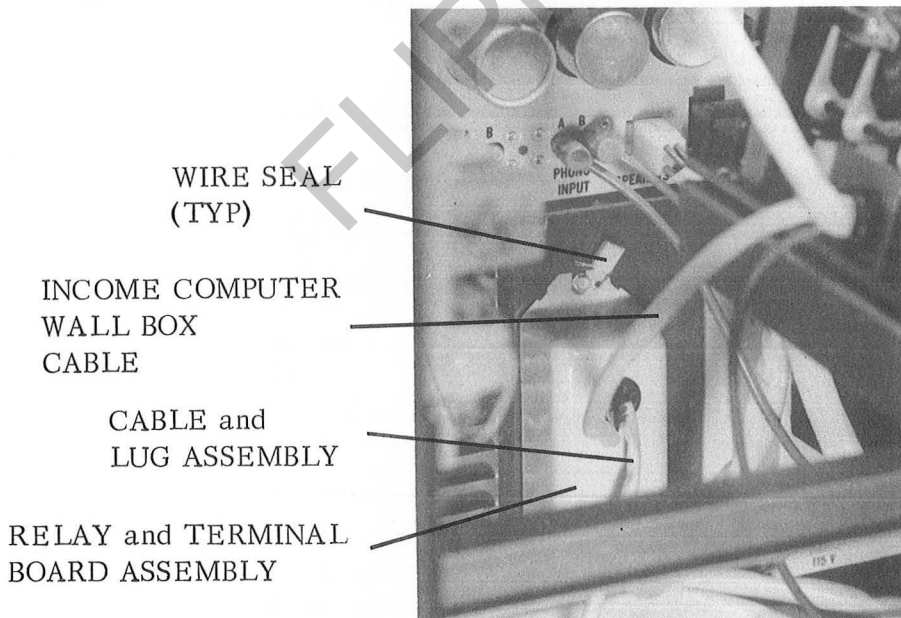

Figure 3.
13. Install INCOME COMPUTER WALL BOX CABLE through snap ring in RELAY and TERMINAL BOARD ASSEMBLY as shown in Figure 3.
16. Connect spade lugs of RELAY and TERMINAL BOARD ASSEMBLY CABLE and LUG ASSEMBLY, shown in Figure 3, to WALL BOX Terminal Strip, located on Phonograph Accessory Terminal Panel as follows:
19. Secure RELAY and TERMINAL BOARD ASSEMBLY to Phonograph with two Screws, Part No. 76267-20, as shown in Figure 3. Phonograph has been pre-drilled for this purpose.